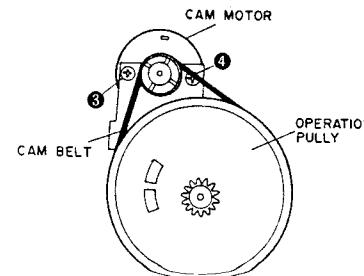

Fig. 3-9
- 5) Remove cam motor securing screws ⑧ and ⑨. (Refer to Fig. 3-9)